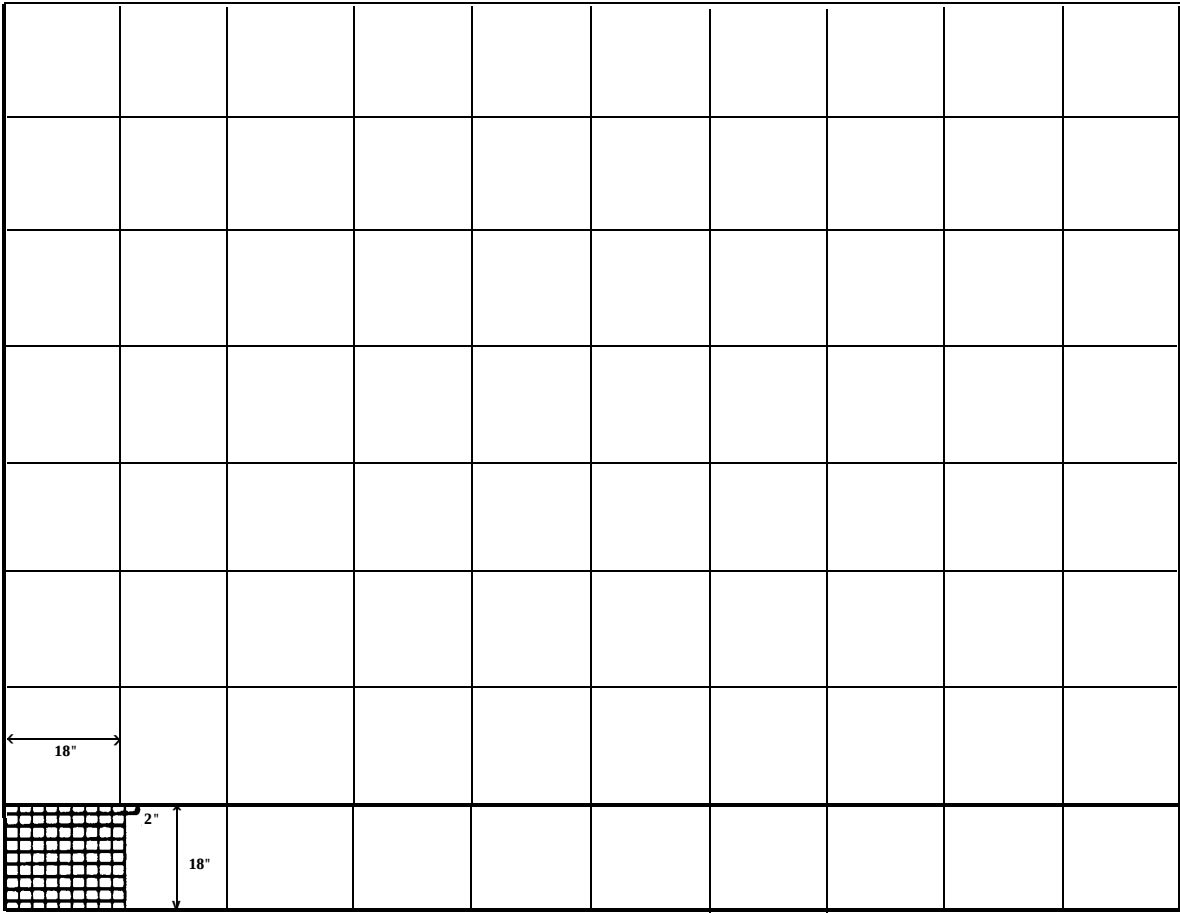
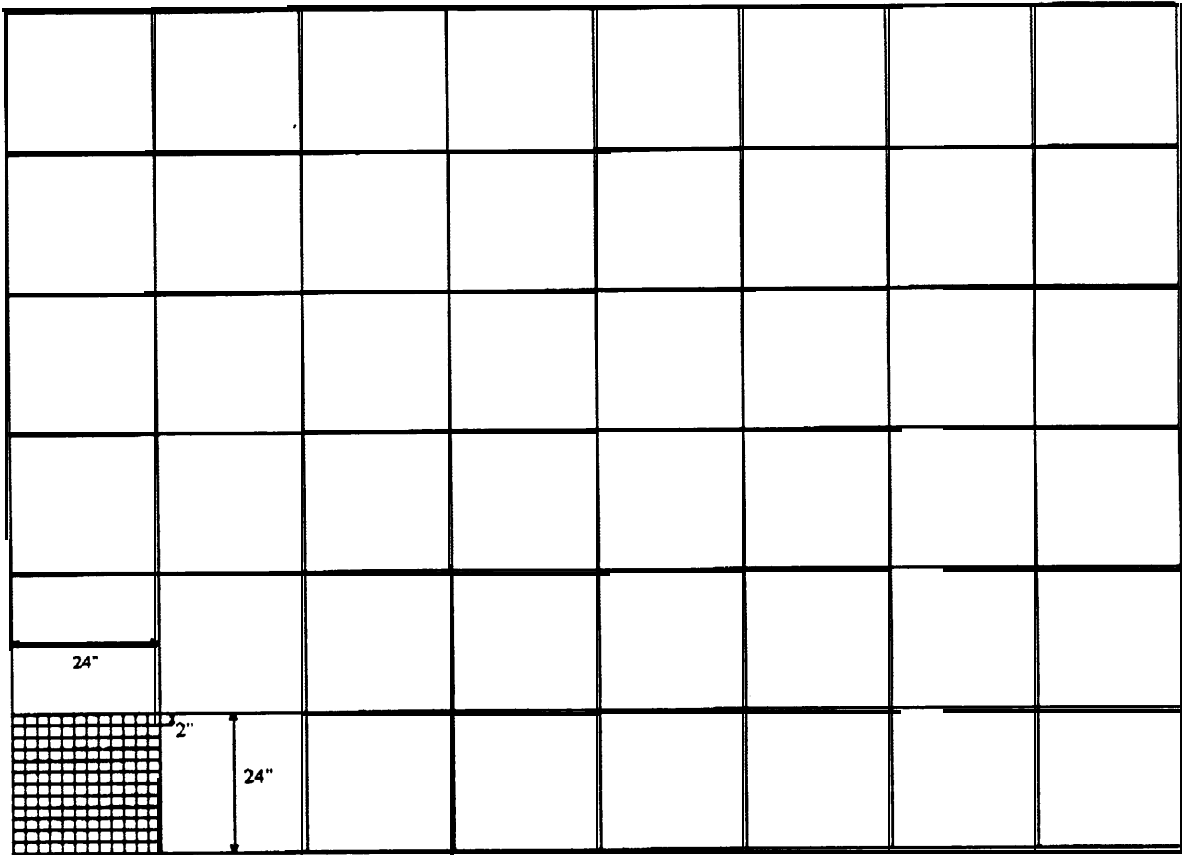
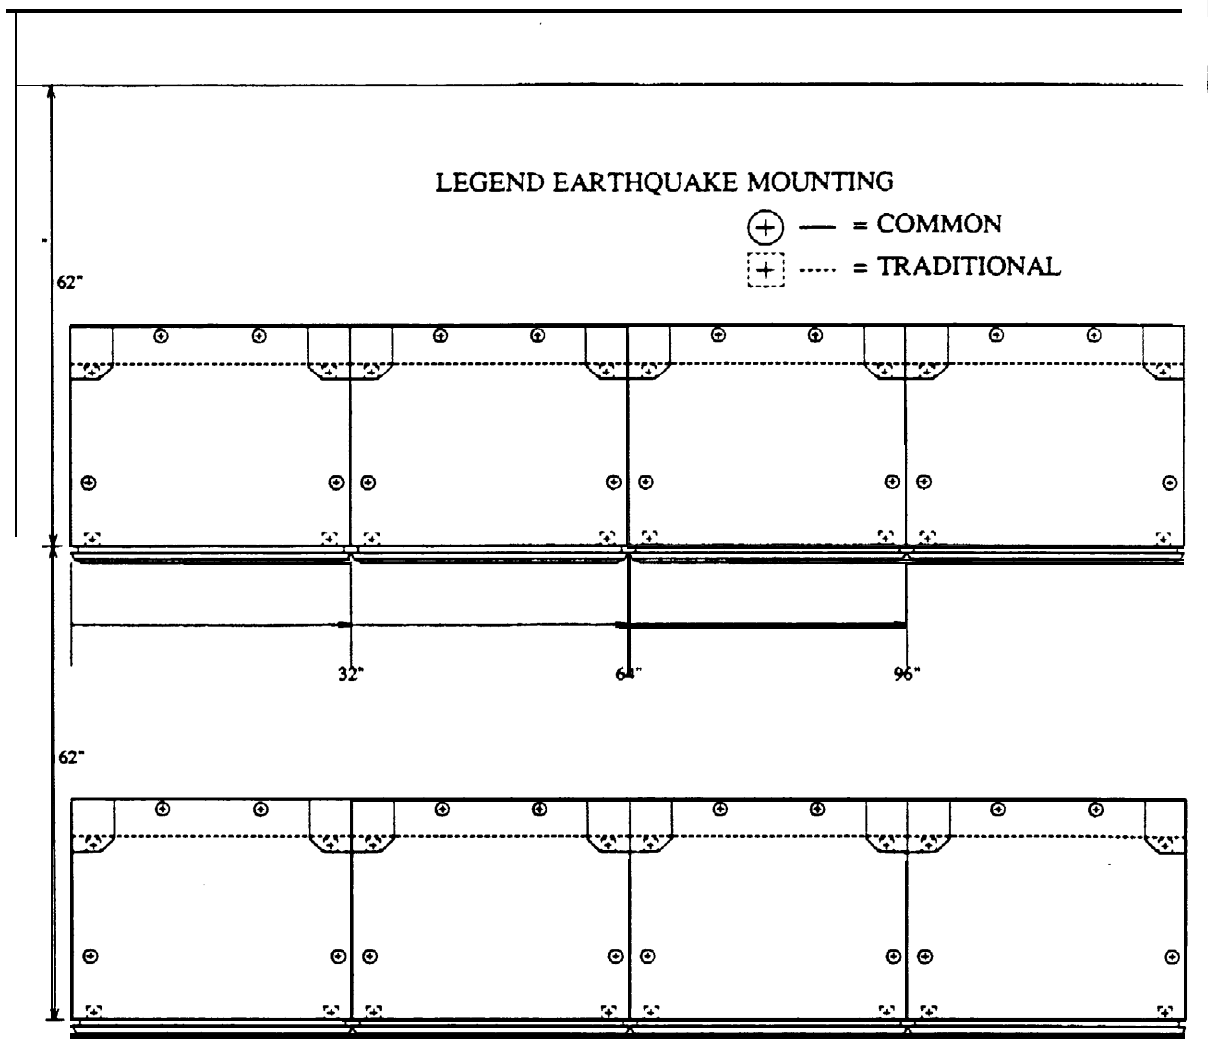

Figure 7-15. Floor Template -18 Inch Tile (L472366)
Figure 7-16. Floor Template - 24 Inch Tile (L472367)
Figure 7-17. Floor Template - Cabinet Lineup (L472368)
- Modification of the floor tiles. Cutouts in floor tiles will have to be made to accommodate the MDF. Discuss this with the customer. Contact the NEC regarding final requirements for cutouts in floor tiles. See figure 7-15, *Floor Template - 18 Inch Tile (L-472366)*, figure 7-16, *Floor Template - 24 Inch Tile (L472367)*, and figure 7-17, *Floor Template - Cabinet Lineup (L472368)*.